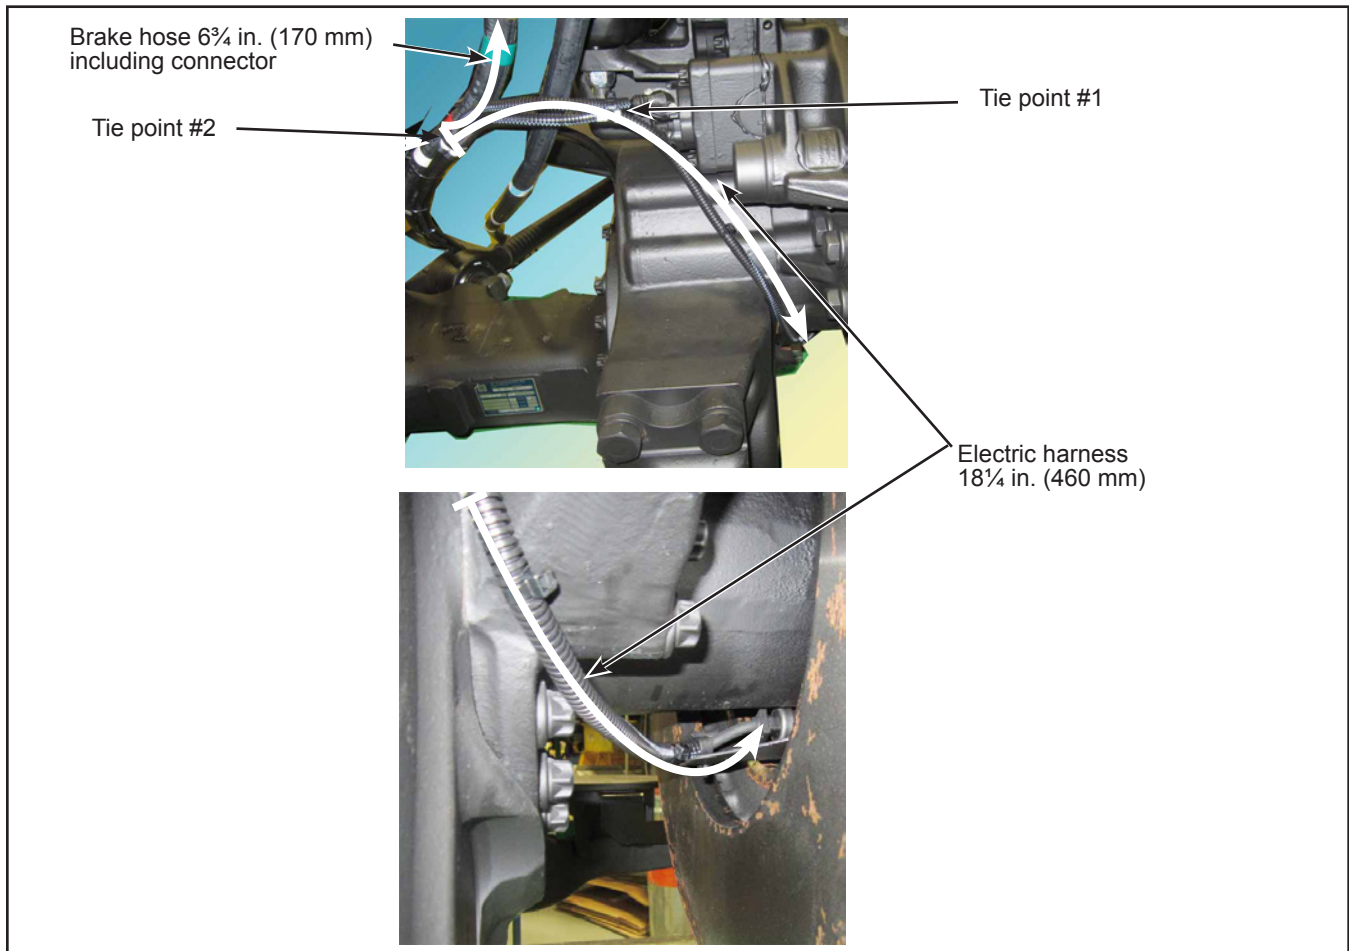

Figure 21 - Curb Side Electrical Harness Routing
- 2.31. Mark the electrical harness at the position indicated in Figure 21.
2.32. Mark the brake hose at the position indicated in Figure 21.
2.33. Affix the electrical harness to the other electrical harness at tie point#1 with a tie wrap. See Figure 21.